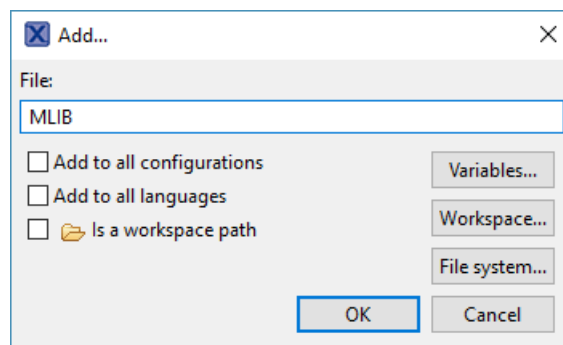

Figure 1-10. Library file inclusion
17. Type the following into the File text box (see Figure 1-10): :mlib.a